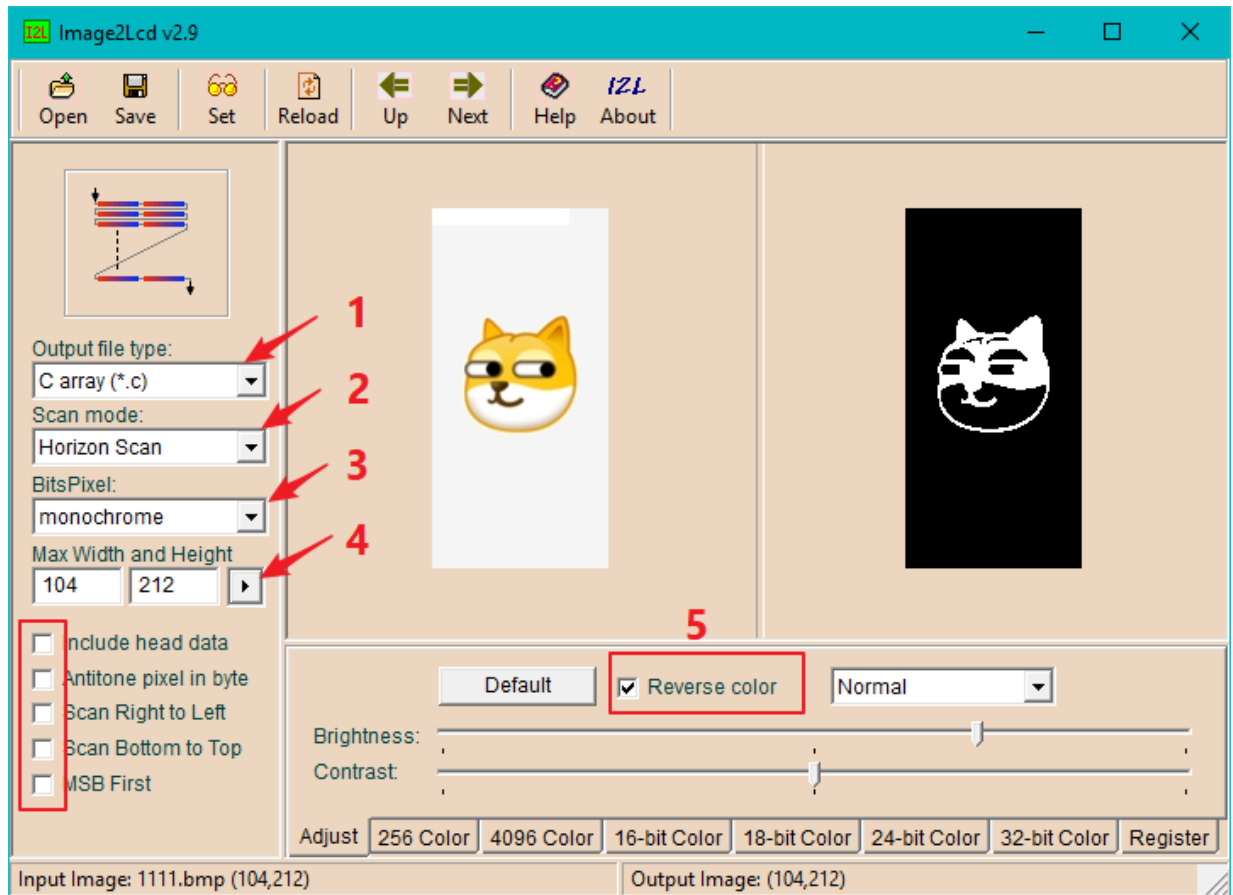

Figure 4. Image2LCD configuration
- c. **Image(Reversed)** means you need to check the **Reverse color** option in the **Step 2(Figure 4)**
- b. **Image** means do not check the **Reverse color** option in the **Step 2(Figure 4)**